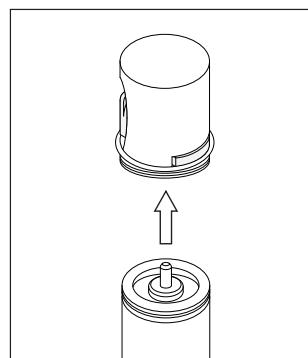

Figure 4
1. Remove shipping cap/metering valve from the fuel cell, if applicable. See Figure 4.